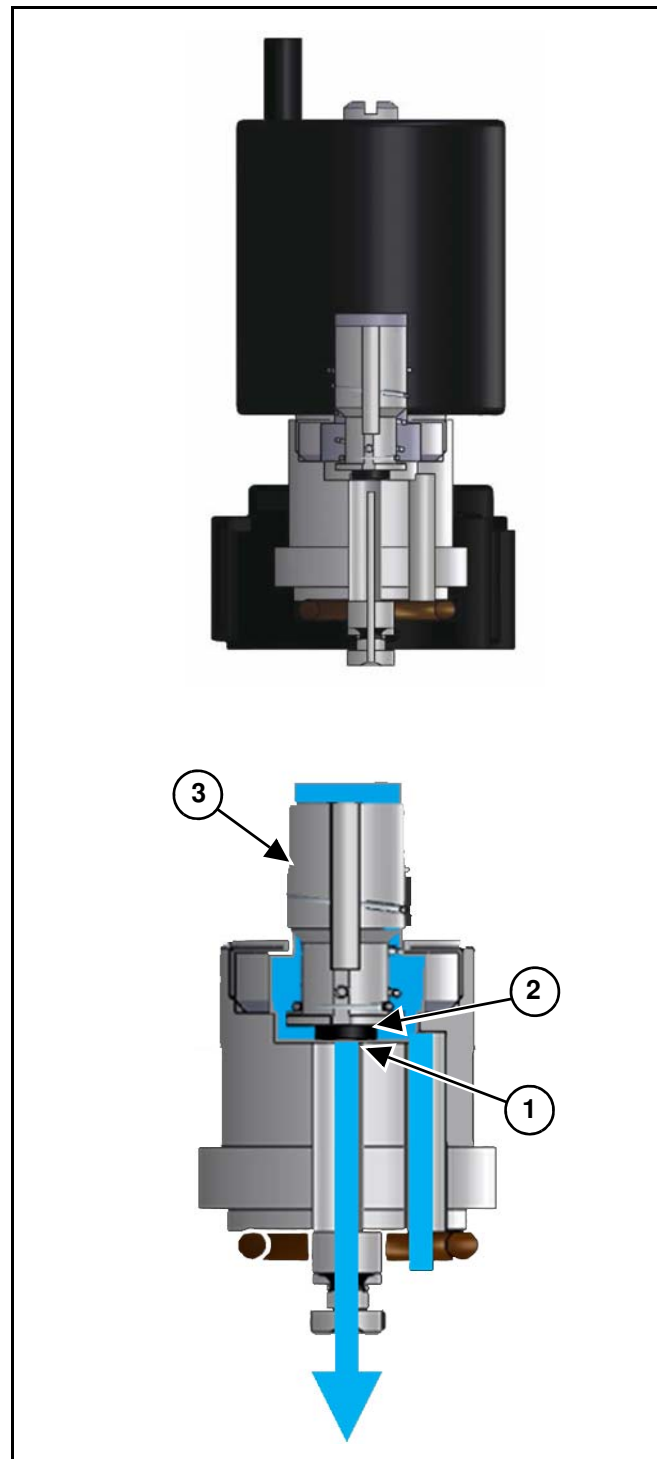

Figure 51
[Figure 51] - Plunger blockage results when larger debris catches between the orifice (1) and plunger seal (2). This is the smallest flow passage within the nozzle valve.